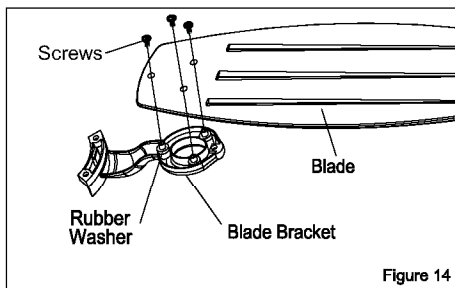

Figure 14
1. Attach blade to blade bracket using the screws as shown in Figure 14. Please note that the rubber washers are pre-attached to the blade bracket. Start a screw into the bracket. Repeat for the two remaining screws.